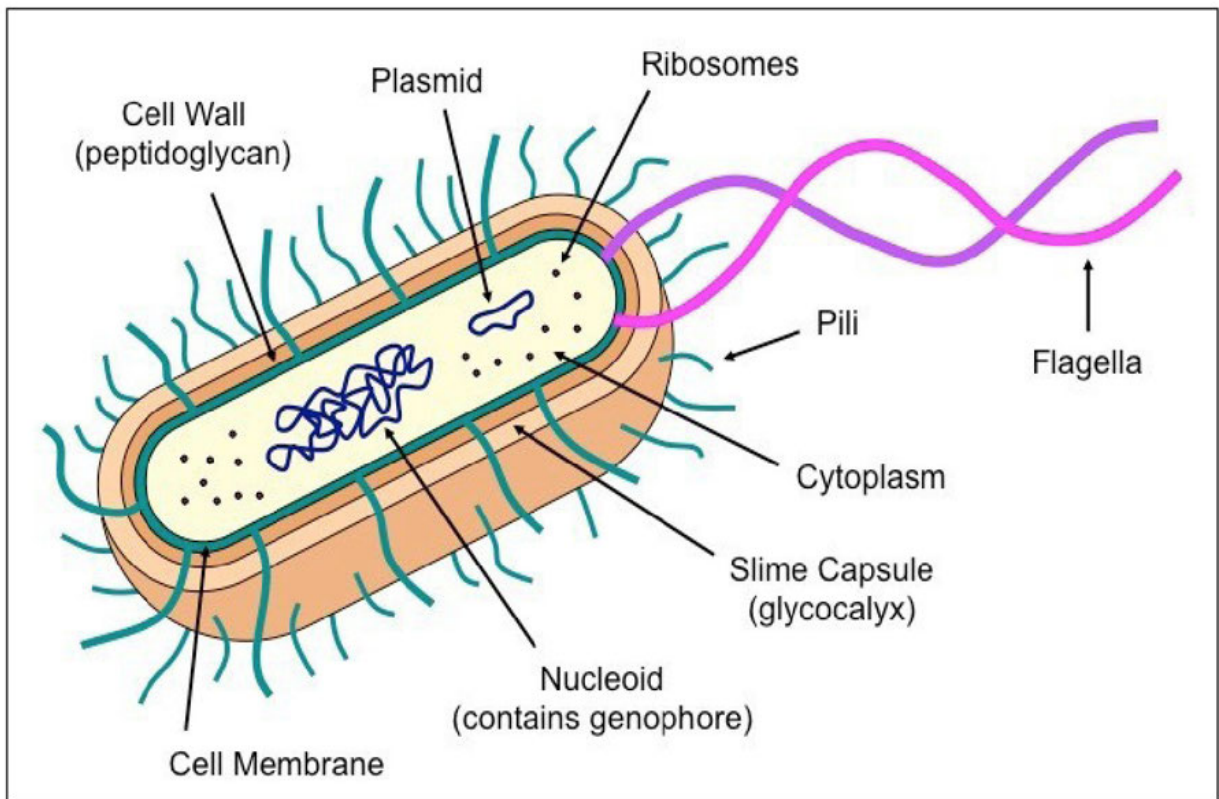

Figure 2 – Prokaryote structure
Figure 2 illustrates the basic construct of a prokaryotic bacteria cell.(1) The small bit of DNA material in a bacterial cell is present in its cytoplasm area in a feature called a nucleoid. A bacteria cell wall contains peptidoglycan which is comprised of acetylglucosamine, acetylmuramic acid and peptides of amino acids. Yeast cells and the cells in our bodies do not contain peptidoglycan. As an aside, when drug makers are creating antibiotics to help cure us from bacterial infection, they often engineer a form of peptidoglycan into the antibiotic so that it will attach itself to the bacteria cells and proceed to neutralize them.